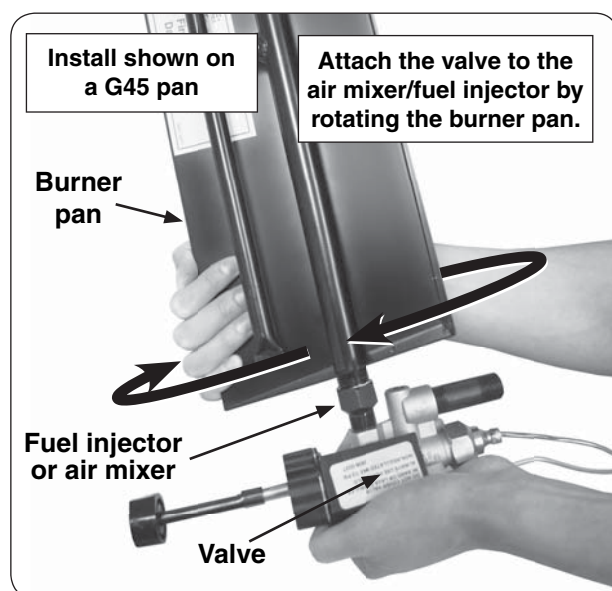

Fig. 7-2 Install valve
2. Install the valve to the fuel injector or air mixer by screwing the pan into the valve (Fig. 7-2). Take care not to damage the attached pilot assembly when rotating the burner pan. Be sure all connections are tight.